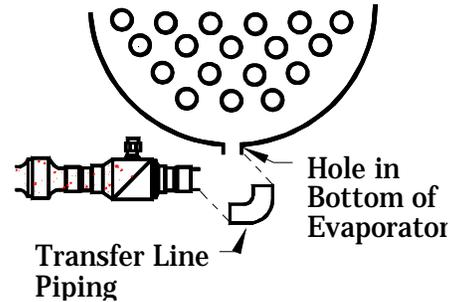

Figure 9. - *Connecting*
1. Cut proper size hole in bottom (or as near as possible to the bottom) of evaporator shell (see Figure 9) at location previously selected per equipment manufacturer's recommendation. Hole size must be equal to transfer line piping size. **DO NOT RESTRICT OPENING!**
3. Run transfer line piping (using refrigeration grade copper tubing of the same tubing size as the transfer line ball valve) between the evaporator connection and the containment vessel (see Figure 9). **DO NOT REDUCE PIPE SIZE!**